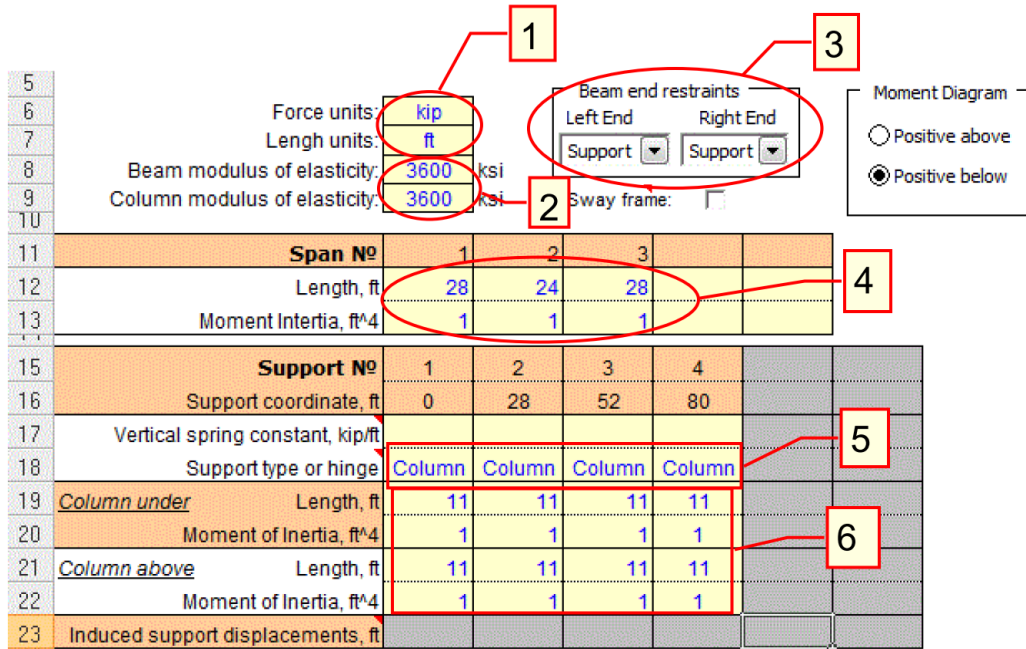

FIGURE 1. WORKSHEET INPUT: SPAN AND SUPPORT DATA TABLES
Step 1. Enter beam geometry (refer to Figure 1)